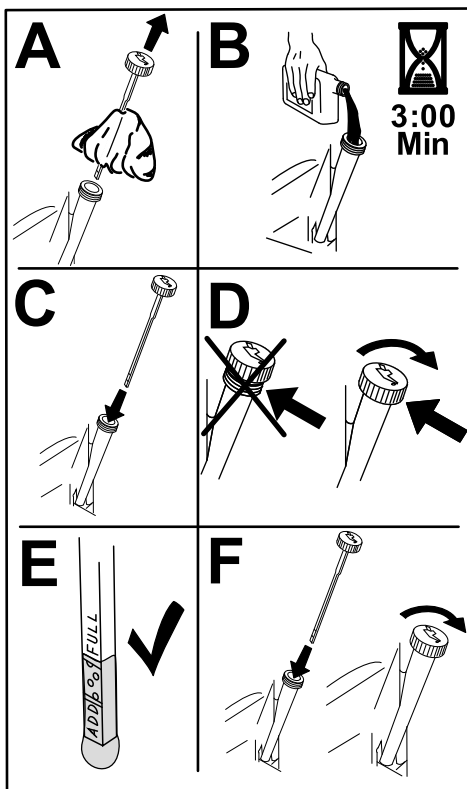

Figure 42
6. Slowly pour approximately 80% of the specified oil into the filler tube and slowly add the additional oil to bring it to the Full mark (Figure 42).